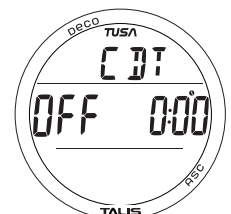

Fig. 90 - CDT STATUS (Off, not set)
**CDT Status**, information includes (Fig. 90):